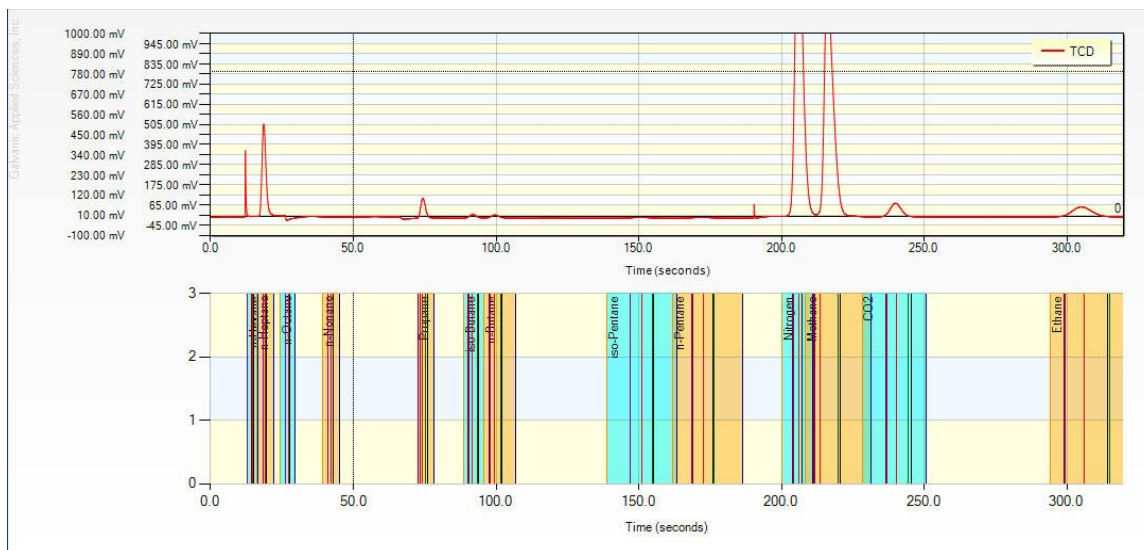

Figure 4-25: Components integration windows along with chromatogram
- **Components** – Clicking on this tool in the Chromatogram ribbon with first prompt the User to select which Component List will be loaded. Component integration window parameters are then displayed below the chromatogram as shown in Figure 4-25.